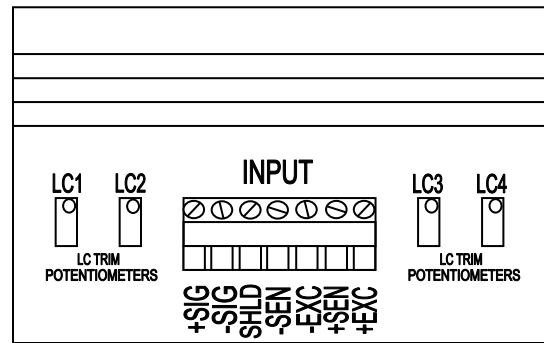

Figure 2. Junction Box Terminal Block.
6. Connect the wire ends to the "INPUT" terminal block inside the junction box, see Figure 2. The Shield wire must be connected to the connection marked "SHIELD". The remaining wire colors may be connected to the terminal block in any arrangement though a recommended color chart is shown below in Table 1. If a label is attached to the cable follow the color code listed on the label instead.